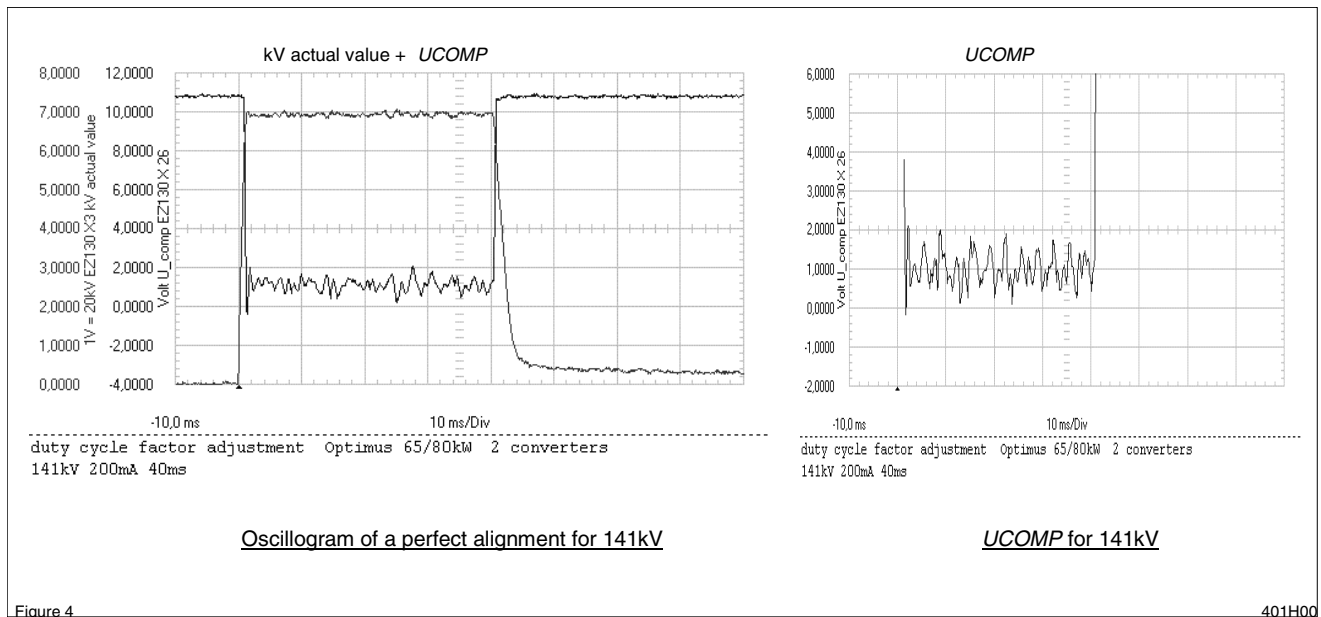

Figure 4
**Result:** In standby the  $U_{COMP}$  value is at about +11V, during exposure the mean value  $U_{COMP}$  must be as given in table 1, refer to figure 4:
- Read the mean value of  $U_{COMP}$  for 125kV (in principle figure 4 or 5).